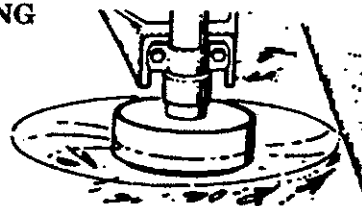

Figure 17
4. **SWEEPING** - Figure 17. The fanning action of the rotating line can be used for a quick and easy clean up. Keep the line parallel to and above the surfaces being swept and move the tool from side to side.